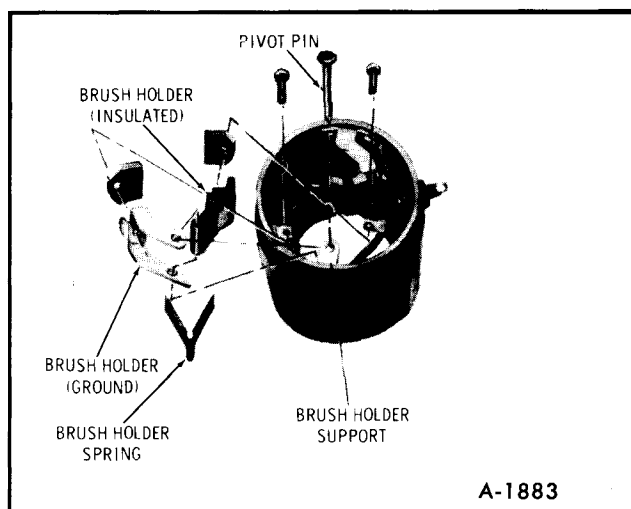

Figure 70—Brush Installation
5. If necessary to replace brush holder parts, refer to Figure 70, then proceed as follows: